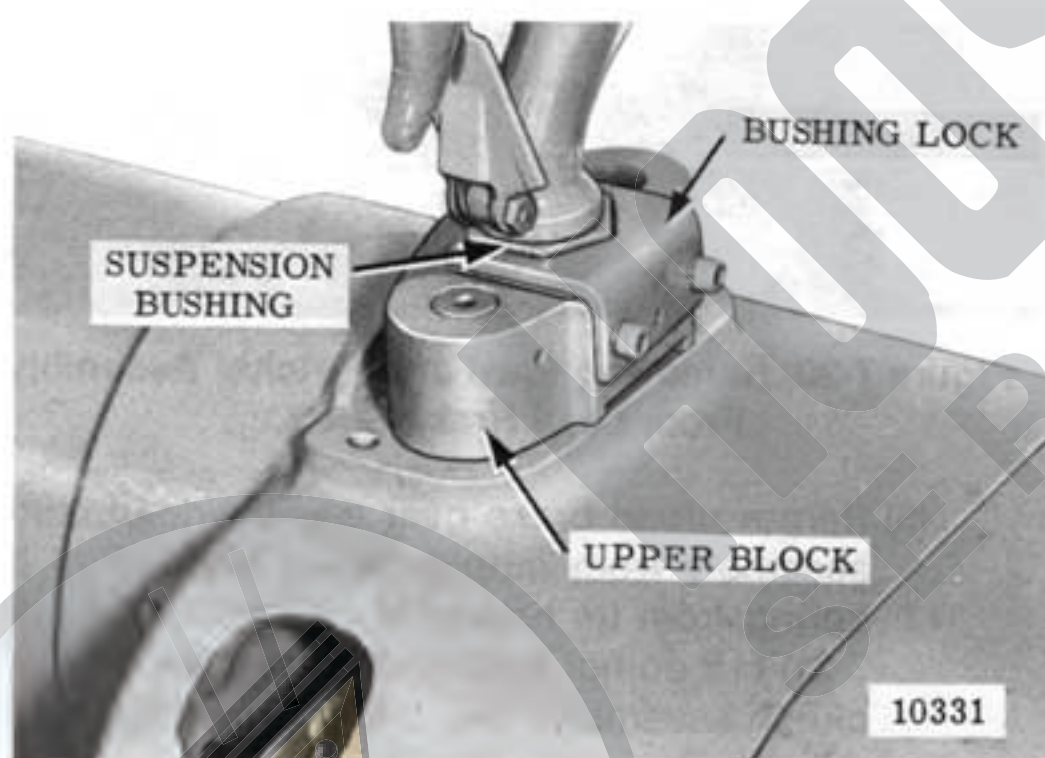

Figure 7-16. View of Upper Hook Assembled To Hoist Frame (Double Reeved Models).
- (2) On double reeved models, unscrew two hex socket head screws holding suspension bushing lock assembly to upper block (Figure 7-16) and remove lock. Unscrew suspension bushing from block to remove hook. To disassemble block from frame remove drive pin from nut inside frame and unscrew nut from stud holding body to frame. Remove drive pin securing threaded end of chain anchor in block and unscrew anchor. Block can then be lifted off.